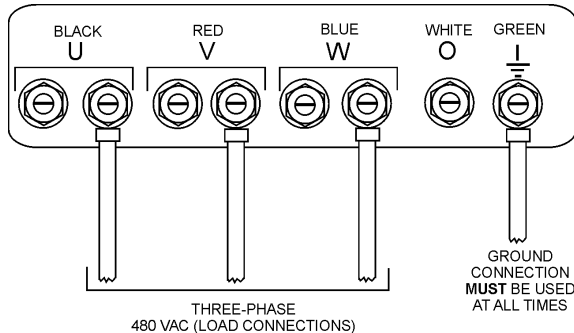

Figure 25. UVWO Terminal Lugs 3Ø-480V Connections
2. Connect the load wires to the UVWO terminals as shown in Figure 25.